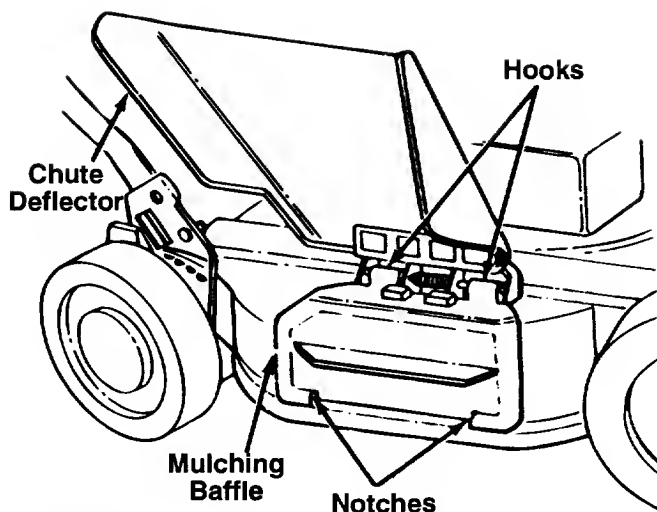

FIGURE 3.
1. Lift the chute deflector on the mower. Slide the notches in the bottom of the mulching baffle over the lip of the discharge opening. See figure 3.